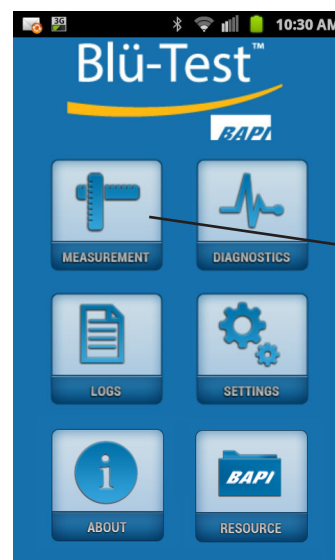

Fig. 5: Main Menu Screen on a Phone
5. The “Main Menu Screen” will now be displayed (Fig. 5).